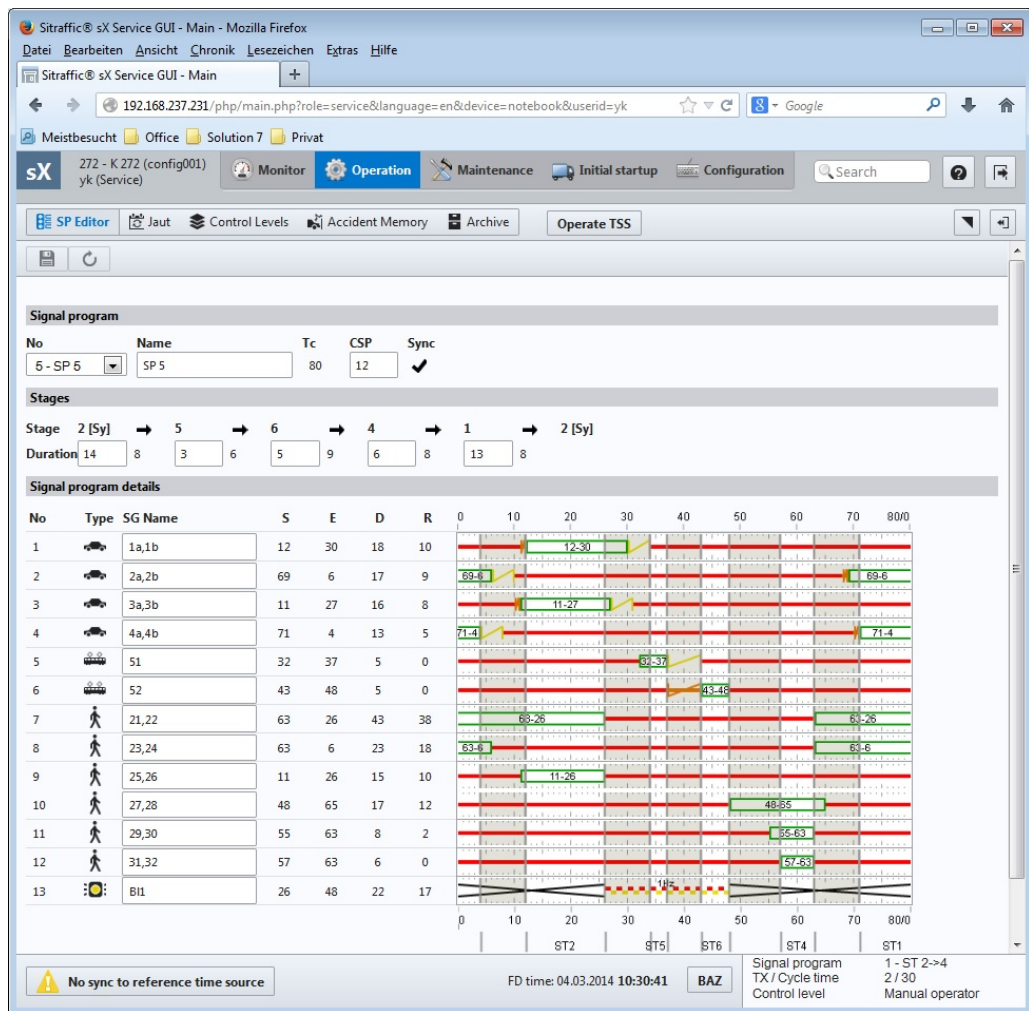

Figure 17: Controller Web GUI showing the signal program editor.
- The stage-oriented signal plan used for testing local traffic actuation must at least provide two stages and the corresponding stage-transition (e.g. SP5 of config001). The Controller Service GUI [2] provides a visualization of the configured signal plans. In case of stage-oriented plans, the configured stages and stage transitions are indicated by background color and annotation (see Figure 17).